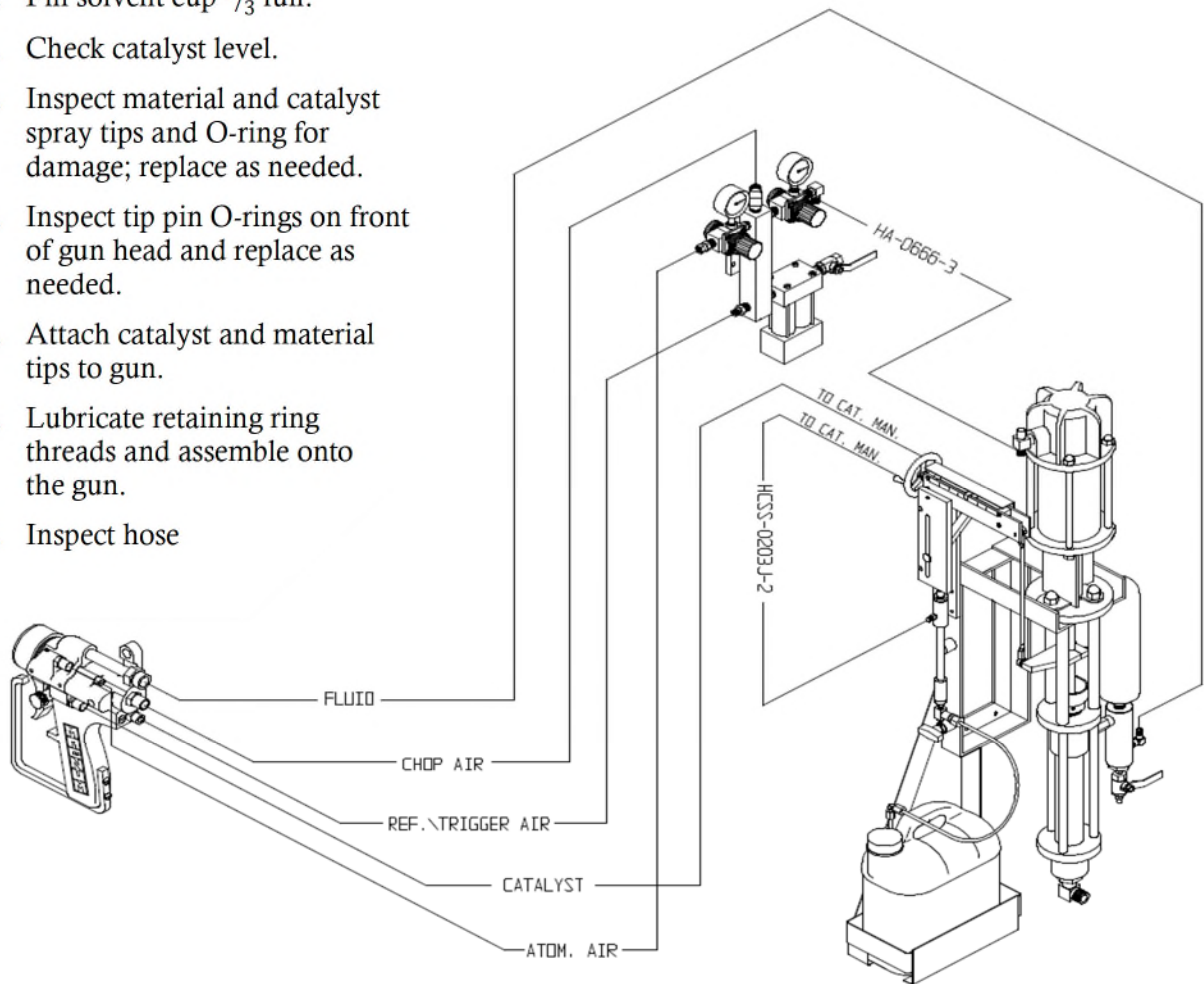

Figure 1. Hose Connections
8. Connect the hoses as shown in Figure 1.